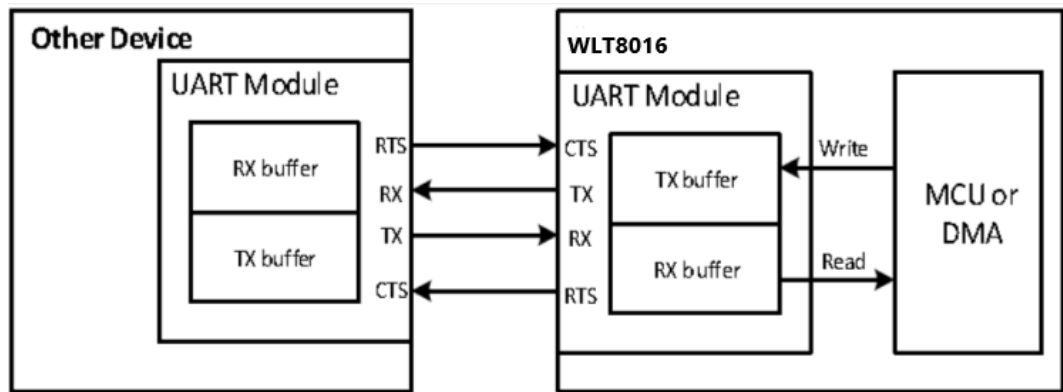

Figure 3-2 UART communication
- As shown in figure 3-2, the sent data is written to the TX buffer, and the UART module transfers the data from the TX buffer through the TX foot. When transferred to other devices, the data received by the RX foot is first sent to the RX buffer and then read through the MCU or DMA.